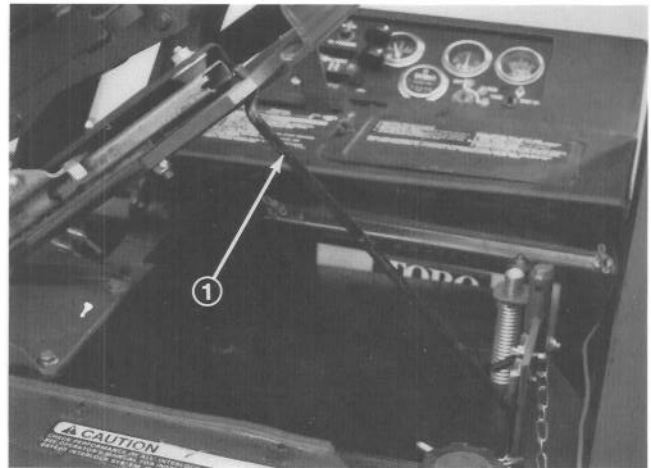

Figure 11
12. Mount seat support over four threaded studs at the bottom of seat suspension assembly and secure in place with lockwashers and nuts (Fig. 11).